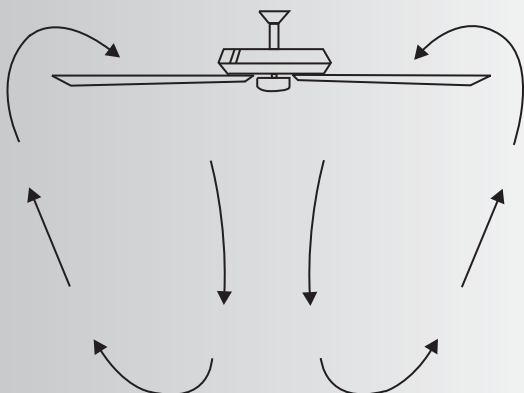

Fig. 24
**Warm Weather Operation:** Forward (counter clockwise) A downward airflow creates a cooling effect as shown in Fig. 24. This allows you to set your air conditioner on a warmer setting without affecting your general comfort.